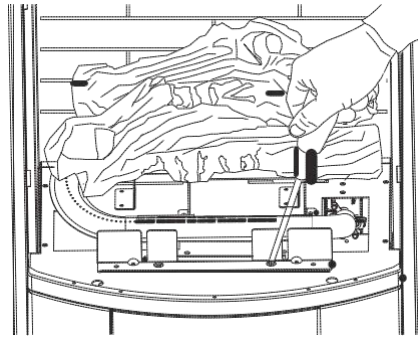

Figure 13 - Removing Screws from Control Panel
14. Remove 2 screws securing control panel. Pull the control panel out without disconnecting the ignitor wire (see Figure 13).
18. Reattach the control panel with two screws removed in step 14 (see Figure 13).